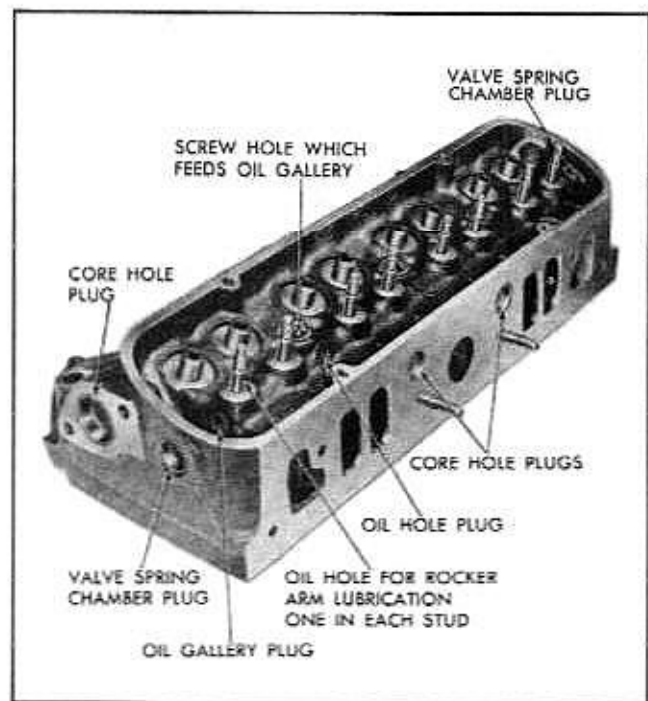

Fig. 6-40 Left Cylinder Head—Viewed from Right Rear
plugs for evidence of leakage (Figs. 6-40 and 6-41).
c. Check oil passages from oil gallery through rocker arm studs. A simple test can be made using a rubber hose and smoke. Block lower end of cylinder head screw hole which feeds oil gallery (Fig. 6-40) and blow smoke in top end of hole through rubber hose. Smoke should come out hole in each stud.